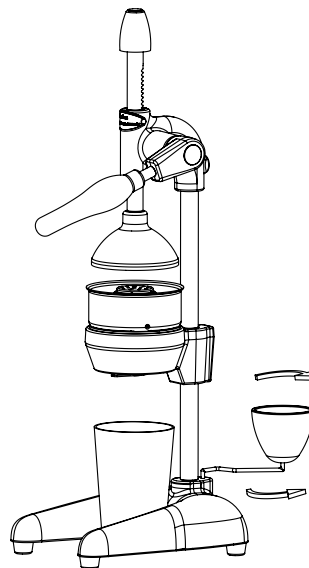

Figure 5
Place the glass that will be filled with the juice, under the Bowl. **(Figure 5).**
Caution: The Drip Cup (30) is designed to collect the juice that is leaking from under the bowl after the squeezing. Please put the Drip Cup (30) under the Bowl after squeezing process. (Figure 5)